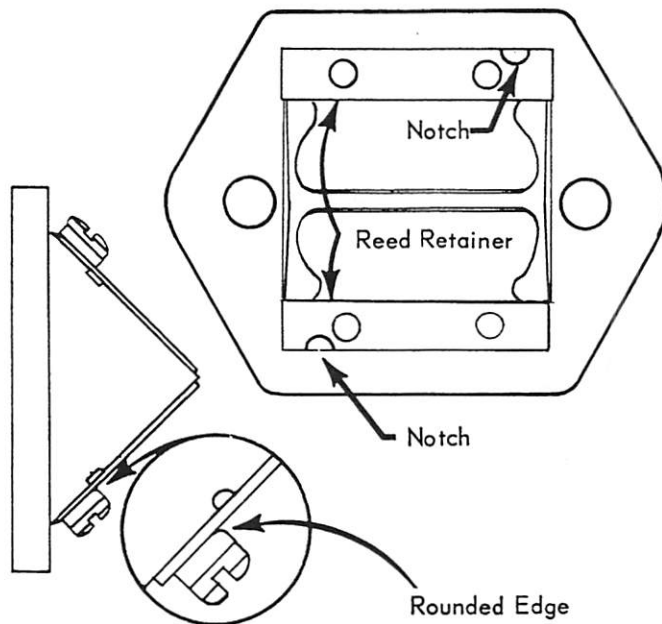

Figure 12. Reeds Centered and Square with Reed Block
6. Refer to Figure 12 for proper assembly of reeds and reed block. When assembling reeds to reed block, care must be taken so that reeds are centered and square with reed block.
- a. Reeds have an identification notch. Install reed with notch positioned as shown in Figure 12. Install reed retainer with rounded edge toward reed to prevent reed breakage.
- b. Late Merc 39 engines have both the reed and reed retainer notched for identification. Install reeds and reed retainers with notch positioned as shown in Figure 12.